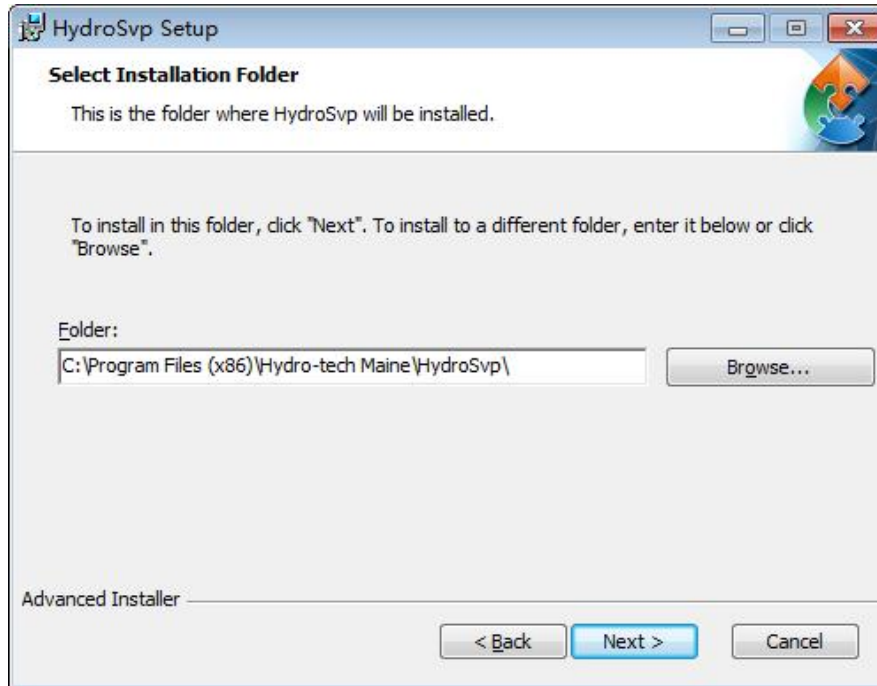

Figure 5.3 Installation Path
- (2) Click “Next” and then select installation path as show as in Figure 5.3.